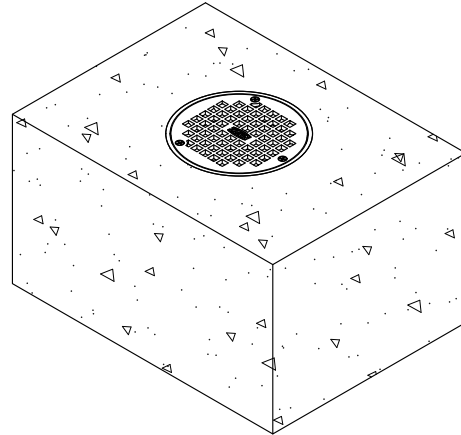

Fig. 11
- 5. Replace strainer and screws. Fig. 11.